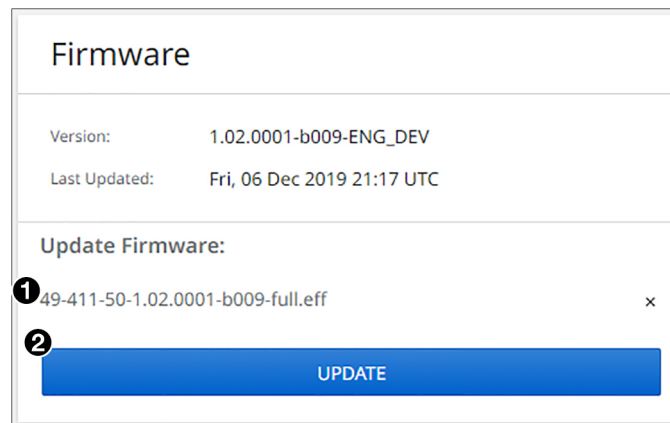

Figure 109. Firmware Update Dialog Box with a Firmware File Selected
3. Double-click the firmware file name. The **Open** window closes, and the selected firmware file name appears in the **Update Firmware** panel on the web page (see figure 109, ①).